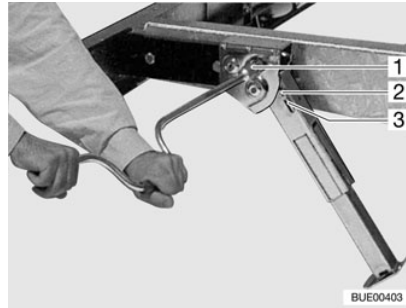

Fig. 8 Steady leg
- Place the socket spanner on the hexagon nut (Fig. 8,1) and rotate. The steady leg swings downward and is automatically extended.
- Place the socket spanner on the hexagon nut (Fig. 8,1) and rotate until the steady leg is clear of the ground.
- Rotate the hexagonal nut with the socket spanner until the steady leg has swung upwards and the guide disc (Fig. 8,3) has completely retracted into the notch (Fig. 8,2).